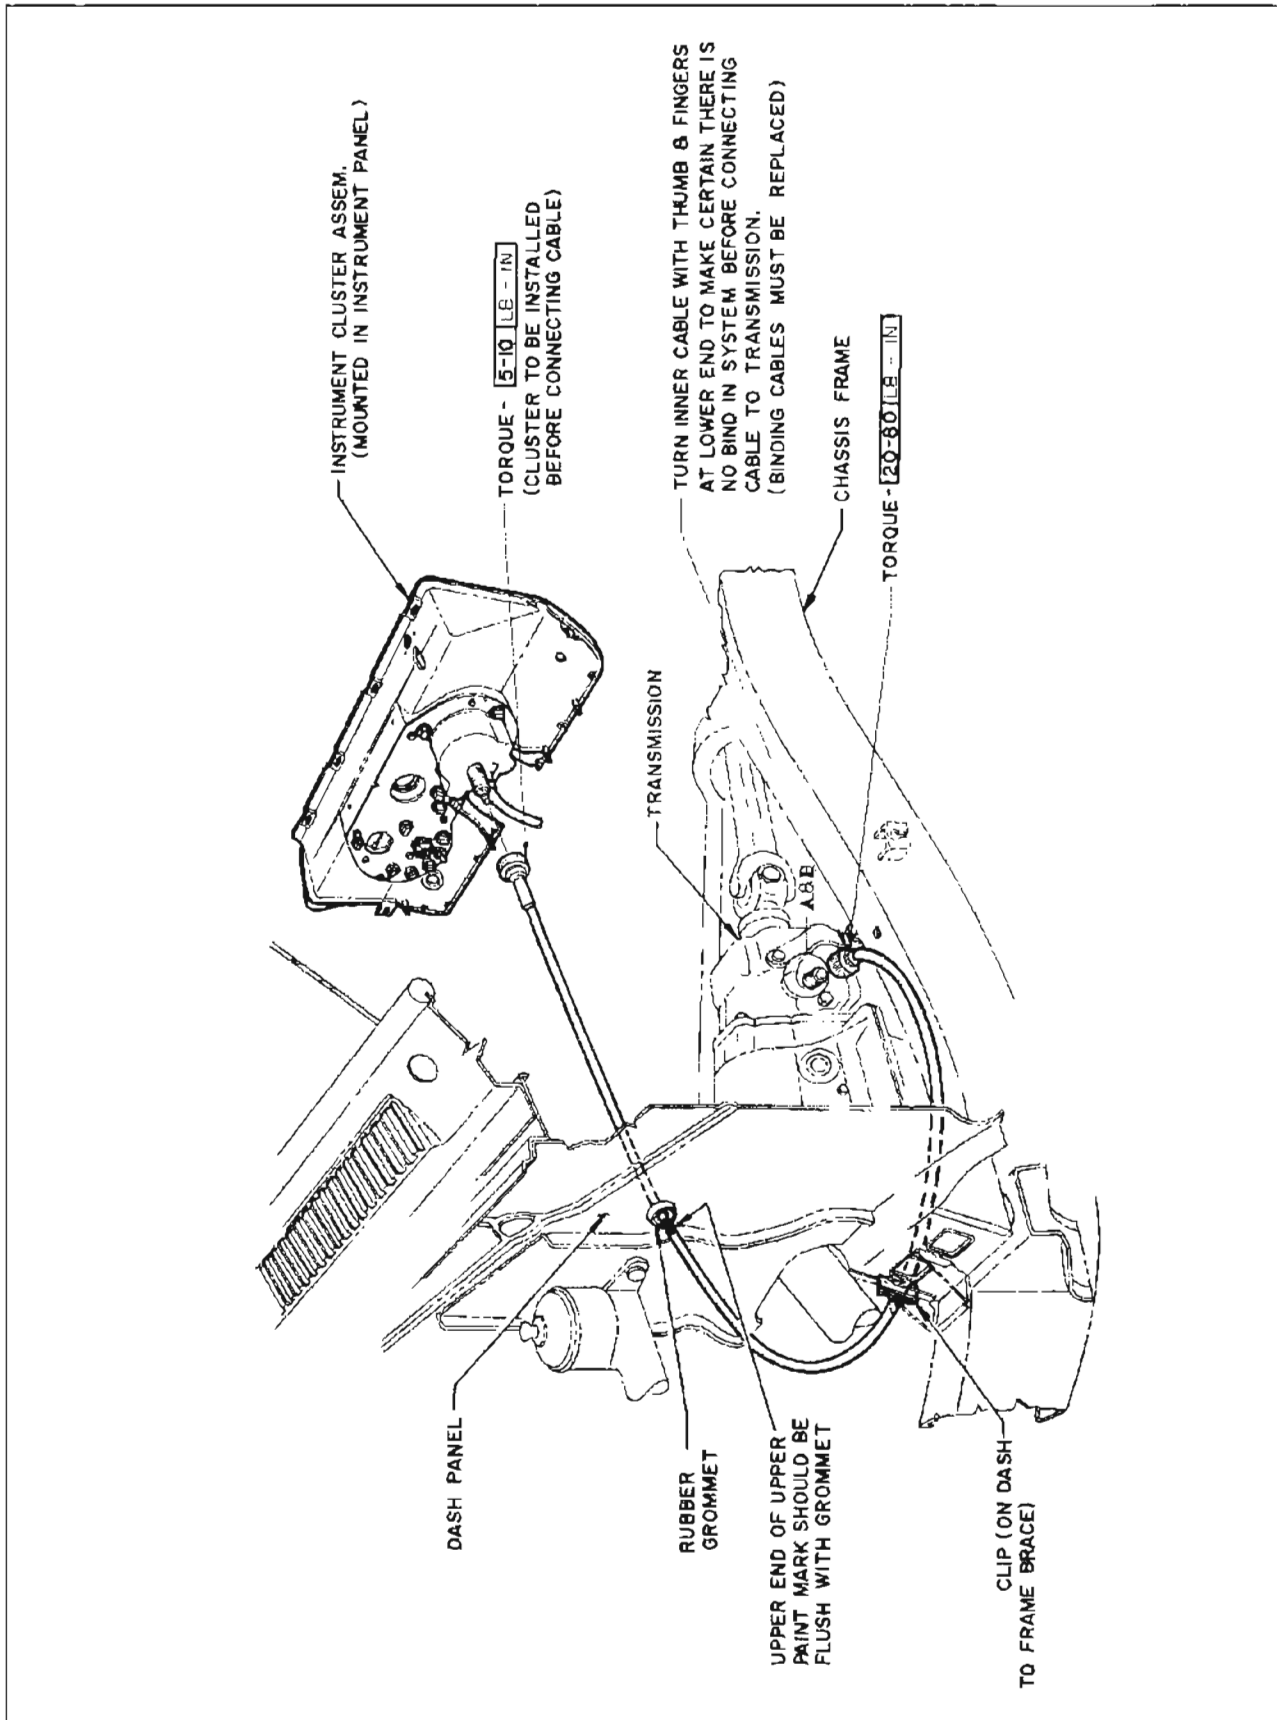

Figure 10-74—Speedometer Cable Installation
5. If noise disappears with transmission stationary, check further for cause of noise by checking for proper installation of speedometer cable as shown in Figure 10-74 or 75..
If the speedometer installation appears to be noisy or the speed indicator wavers, inspect the cable casing for damage, sharp bends, or for being out-of-position in the supporting clips. See Figure 10-74 or 75. If casing is in good condition and properly installed, remove inner cable for inspection.